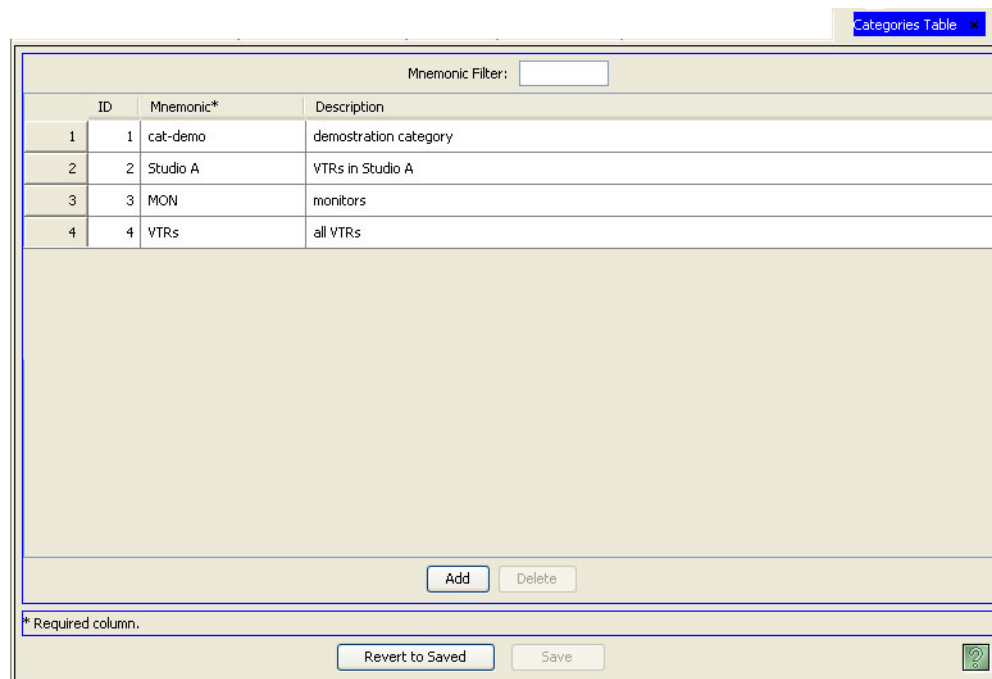

Figure 10-34. Categories Table
- 2 From the Navigation area, select the 'Views' pane and then 'Categories'. The 'Categories' table appears, as shown in Figure 10-34.